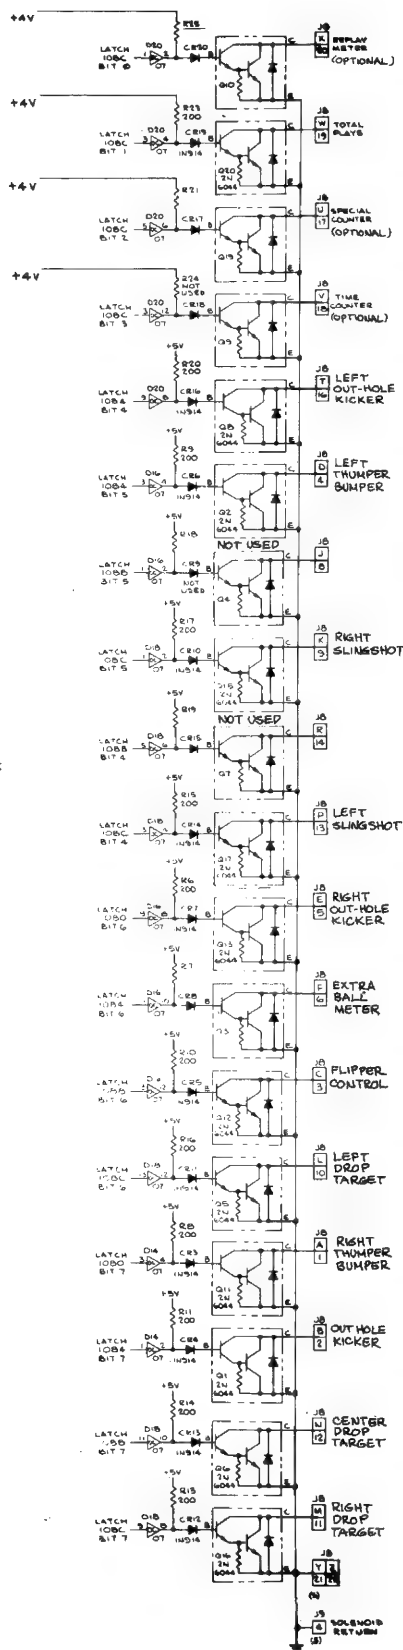

Figure 4-5 Solenoid Output Circuitry
4. Solenoid Output Circuitry—See schematic, Figure 4-5